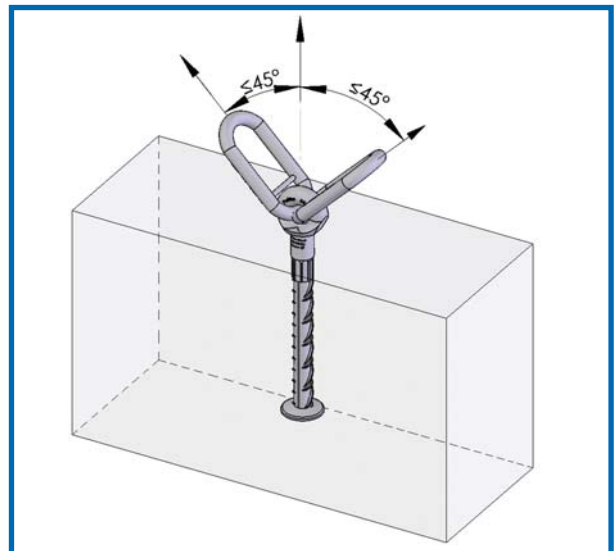
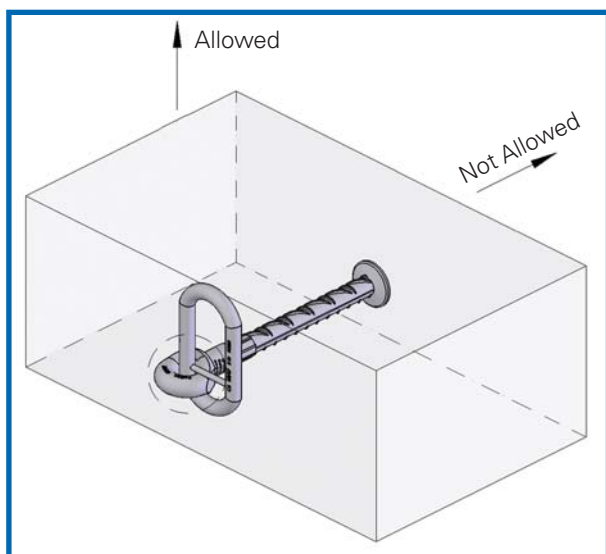

Figure 17: JENKA Lifter Installation for Axial and Angular Pull
Figure 19: JENKA Lifter Installation for Lateral Pull
- The Peikko JENKA Lifter should only undergo loads from the directions shown in figures 17 - 18, loads as shown in figures 19 - 21 are impermissible.